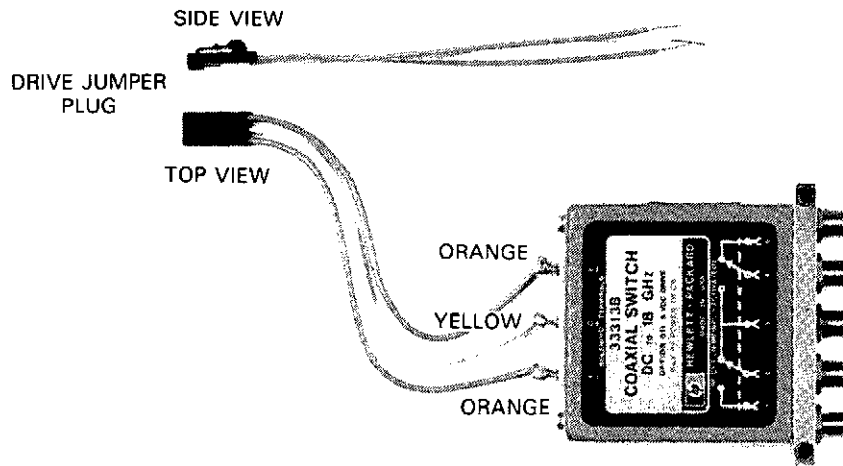

Figure 12-5. Drive Jumper Orientation
1. Orient the drive jumpers W1 and W2 with the corresponding microwave switch as shown in Figure 12-5. This orientation will make the switch operation agree with the silk-screen on the module panel. Solder the drive jumpers to your microwave switches.
3. Plug the drive jumpers into the module connectors (do not install unused jumpers). The channel number is silk-screened on the module PC board next to the connector. The drive jumper plug is keyed to fit into the module connector one way only. After drive jumpers are installed, lay them flat against the PC board so they stay beneath the component-side shield when installed. See Figures 12-5 and 12-6.